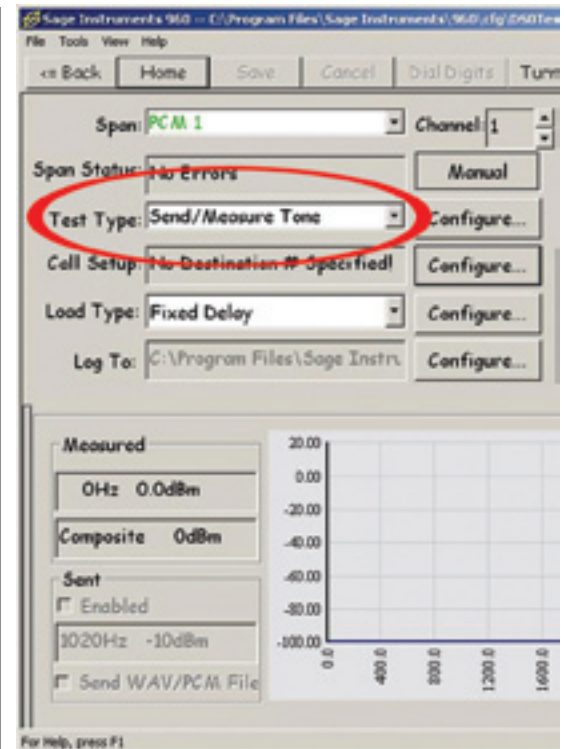

Figure 35
2. Configure PCM1 for the Send Tone test. From the span view window double-click on PCM1 to bring up the channel view. Double-click on channel 1 to bring up the main test configuration screen. From the test type pull down menu select “Send/Measure Tone” and click save (see figure 35).